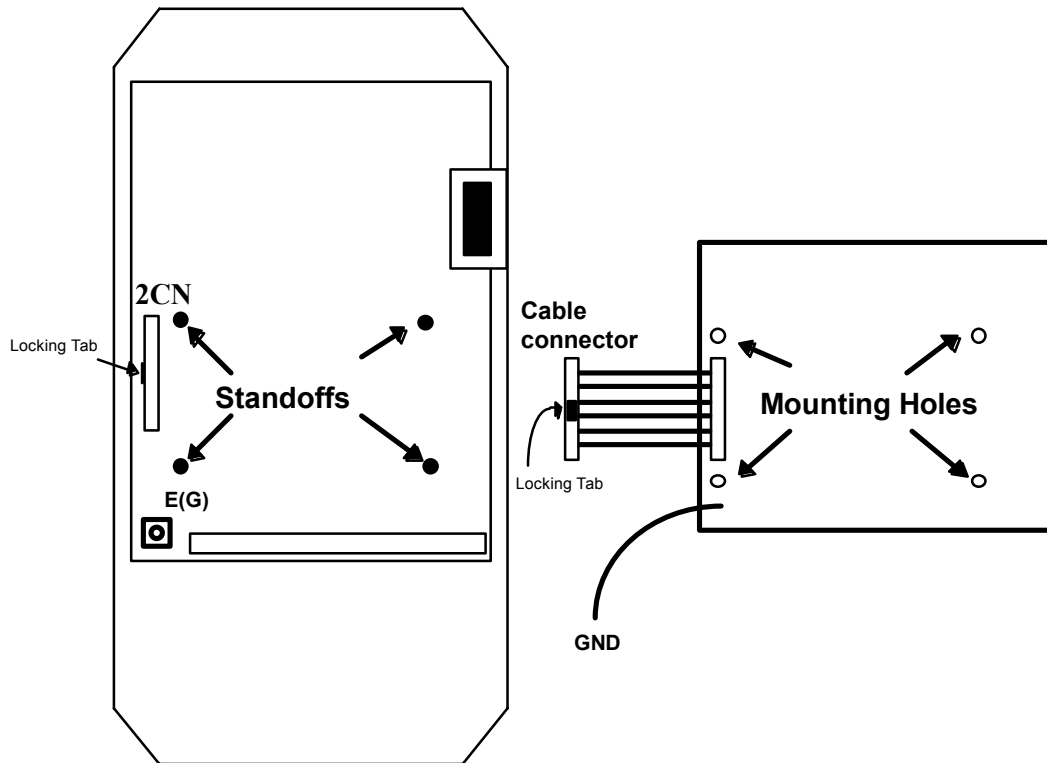

Figure 4. Option Card Positioning
- Step 3.** Position the option card so that the 12-pin interface cable is to the left, as illustrated in **Figure 4**. Carefully press the attached cable connector into connector 2CN until it is firmly seated. Please note the orientation of the locking tab relative to the connector mounted on the control board.
- Step 5.** Install a green ground wire to the Ground Terminal of the CM047 Lonworks interface, to a noise free control ground (Typically this will be either the panel power supply line ground, or the ground connection referenced at the local controller). Note: It is preferred to ground the Lonworks interface to correctly supply reference to the network. However, if a noise free ground is not available, leave the ground terminal on the Lonworks interface un-terminated. Refer to **Figure 4**.